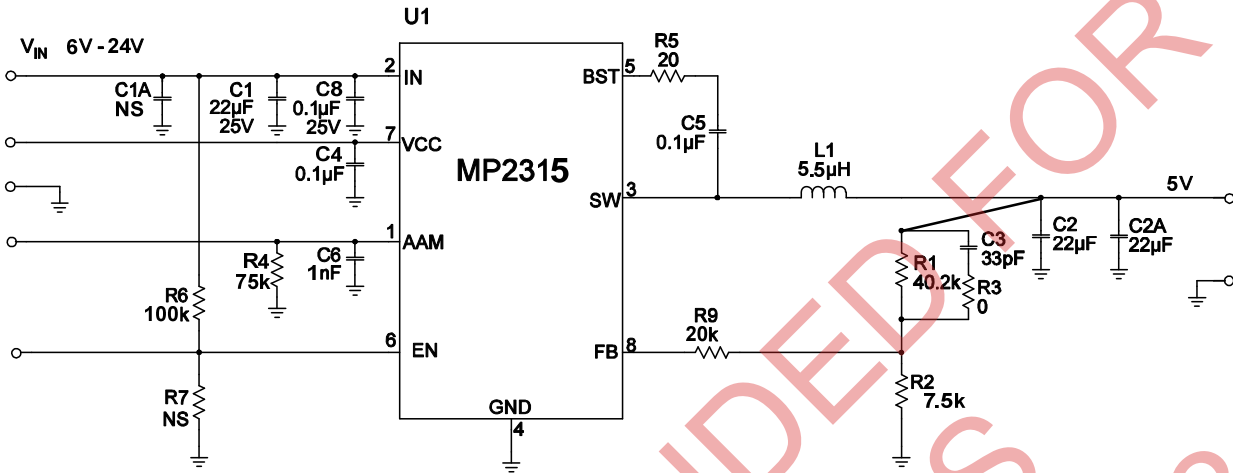

Figure 9: $V_o=5V, I_o=3A$
- 6) The recommended layout is based on the Figure 9 Typical Application circuit on the next page.
The detailed application schematics are shown in Figures 9 through 14. The typical performance and circuit waveforms have been shown in the Typical Performance Characteristics section. For more device applications, please refer to the related Evaluation Board Datasheets.